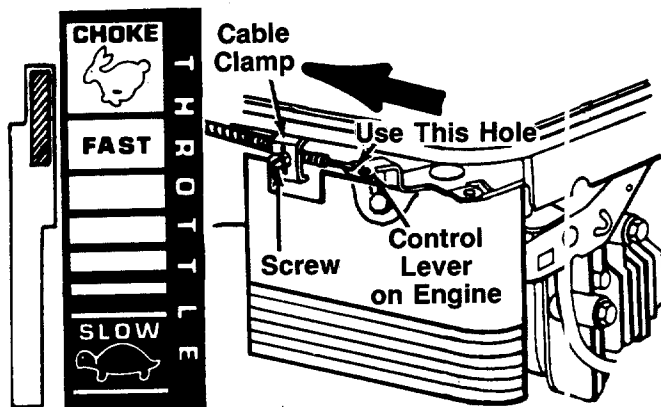

FIGURE 5.
- Push the throttle control lever on the handle all the way forward to CHOKE position. See figure 5.
- The throttle control cable is attached to the upper handle. Route the throttle control cable under the lower handle and inside the handle mounting bracket. Hook the "Z" end of the throttle control cable into the smaller hole in the control lever on the engine. See figure 5.
- Using a screwdriver, remove the screw and cable clamp shown in figure 5. Remove the cable clamp from the cable.